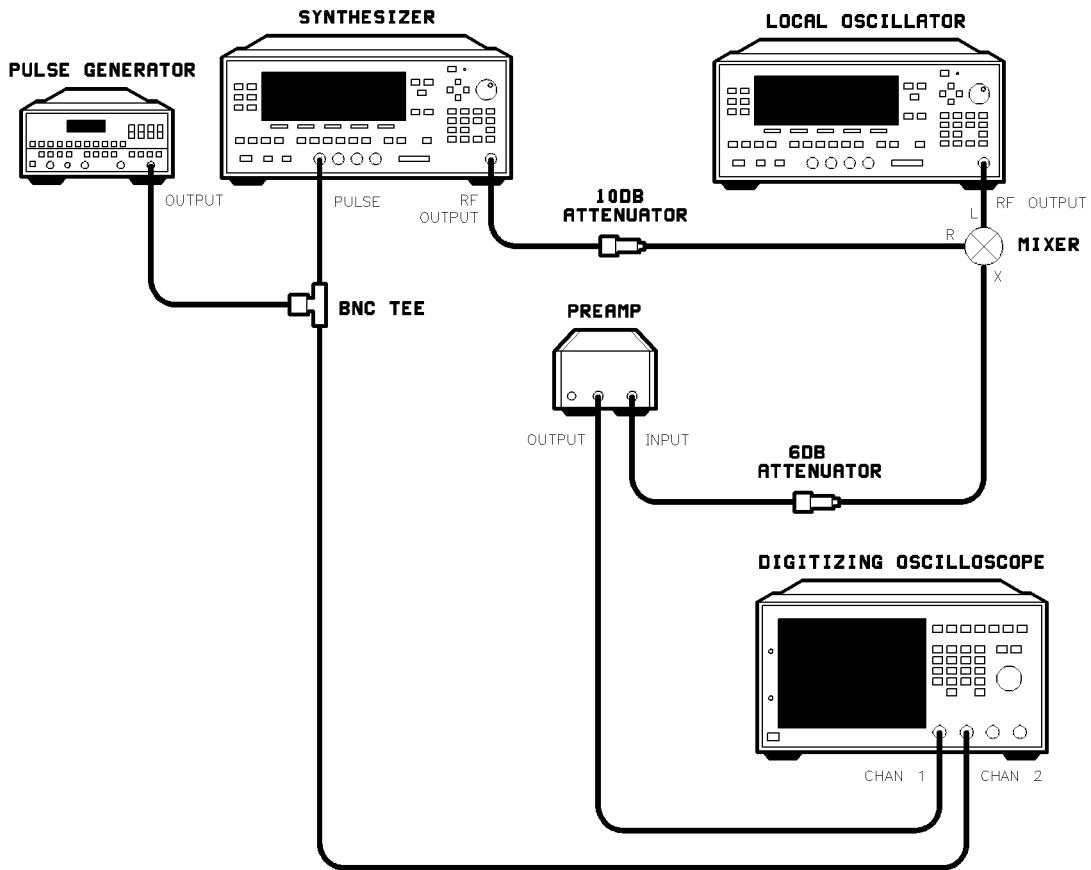

Figure 2-18. Pulse Performance Test Setup < 20 GHz
1. Turn on the equipment shown in Figure 2-18 and Figure 2-20. Preset the instruments and let them warm up for at least one hour.
2. Connect the equipment as shown in Figure 2-18.